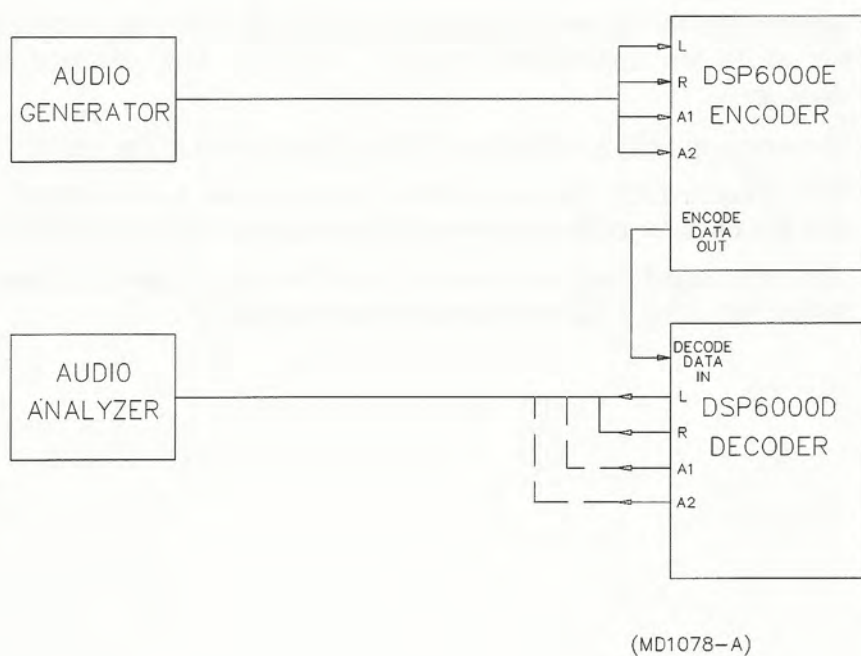

Figure 2-2
If the DSP6000A Encoder and Decoder were purchased to retrofit an existing system (that is, if the STL transmitter and receiver are currently installed at separate sites or are not readily available for back-to-back test) the encoder and decoder may be tested in back-to-back configuration, separate from the system. Figure 2-2 shows a typical bench test setup.
1. Connect the system as shown in Figure 2-2 and apply AC power to the encoder and decoder. The presence of power is indicated by the green display mode LED's, MAIN or AUX, on both encoder and decoder.